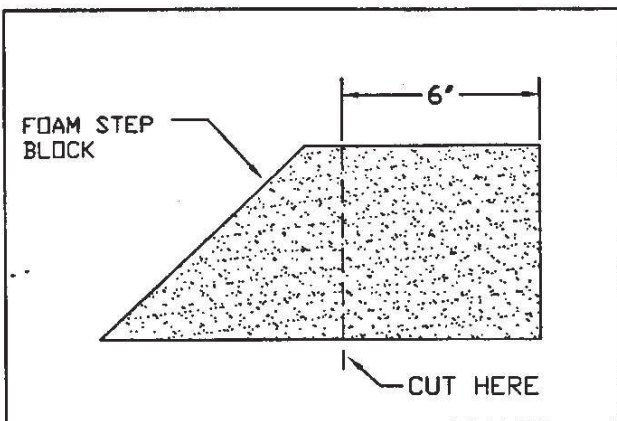

Fig. 3 Cutting the foam blocks.
- 7) Cut 6" off the large ends of the two step blocks as shown in Fig. 3. A sharp extendable utility knife or a serrated bread knife will work.